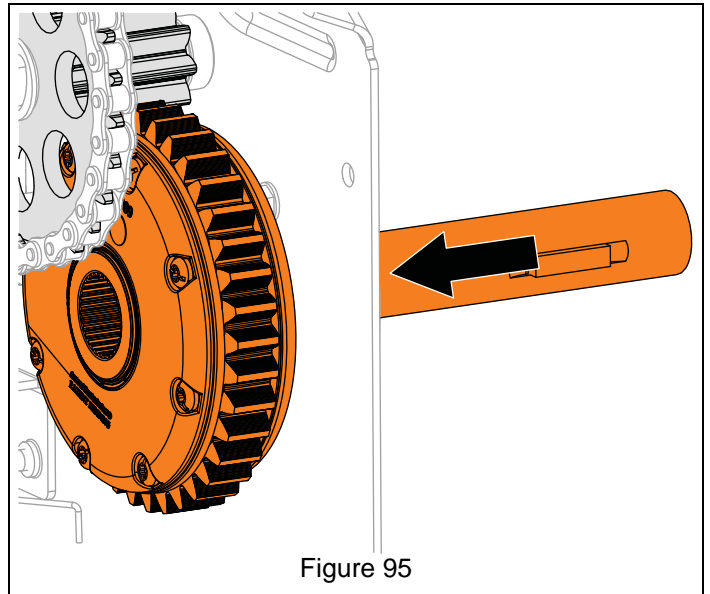

Figure 95
3. Align differential gear with pinion gear and short axle. Reinstall short axle into differential. See Figure 95.